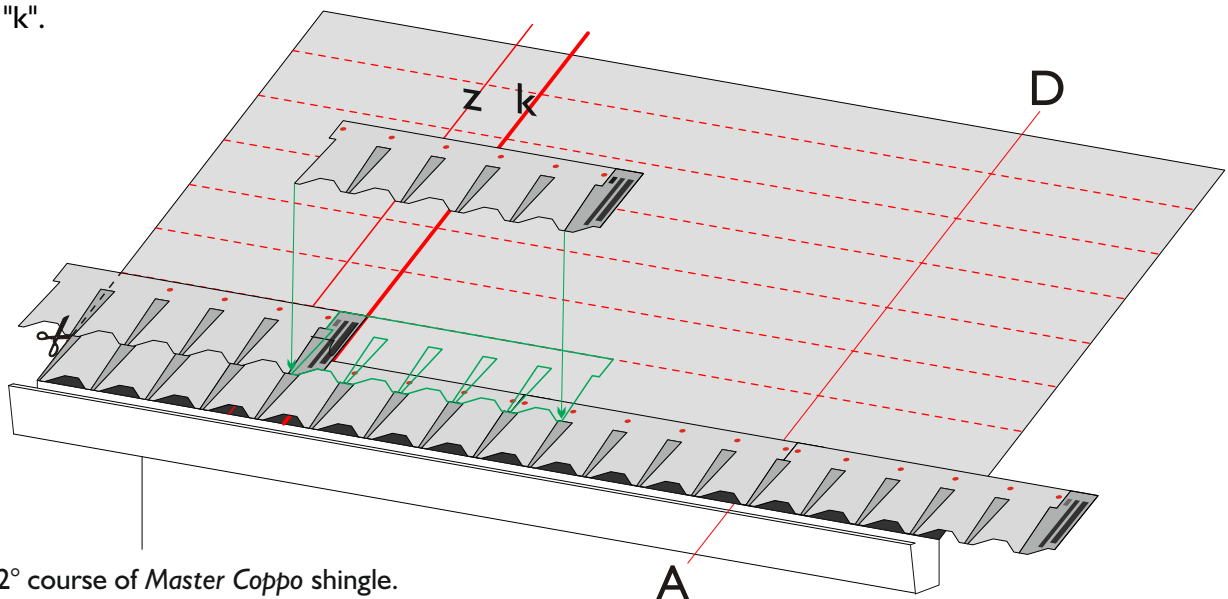

Fig.3 – 2° course of Master Coppo shingle.
- The installation of the second course of shingles begins aligning the Master Coppo shingle to the line "k" (Fig.3). Repeat steps 1-2 to complete 2° row.